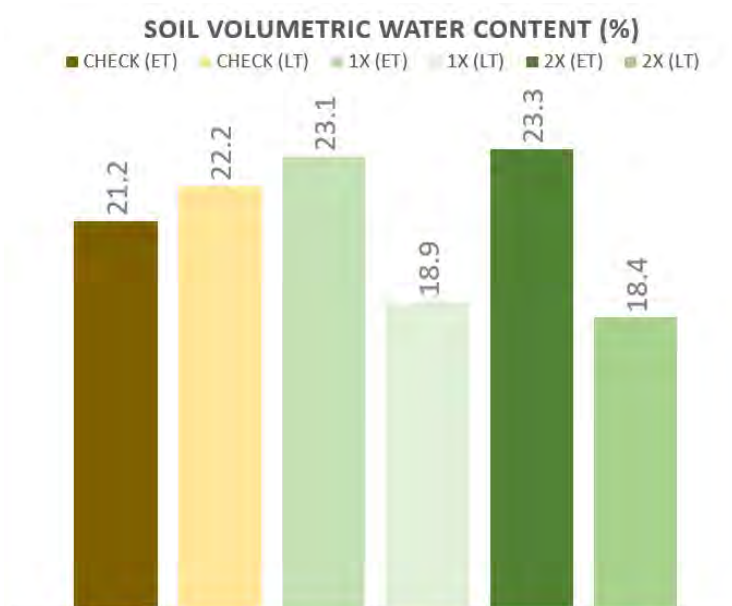

Figure 2. Soil volumetric water content expressed as a percentage.
The soil volumetric water content, expressed as a percentage, compares the 3 seeding rates (check, 1X, 2X) and the earlier terminated treatments (ET) to the later terminated treatments (LT) (Figure 2). Measurements were taken on 5/17/21, just prior to late termination of the cover crop and planting of the cash crop (corn). ET treatments were terminated on 4/26/21. In general, the ET treatments were wetter than the LT treatments and the 2X, LT treatment was the driest of all treatments.